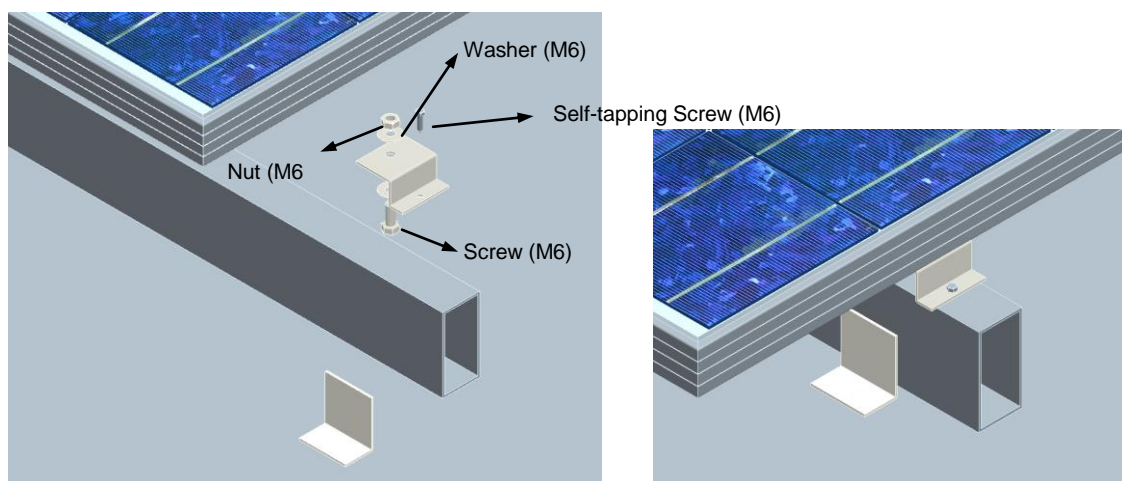

Figure 3
The solar module frame must be attached to a support structure using **1/4" or M6 stainless steel** hardware in a minimum of four (4) places symmetrical on the solar module. The stainless hardware used for securing the module frame should be secured with an applied torque of **6 foot-pounds (8 Newton-meters)**. Refer to Figure 3.